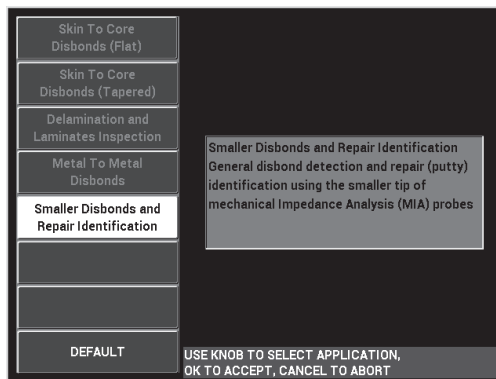

Figure 6-30 The Smaller Disbonds and Repair Identification application
3. Select the **Smaller Disbonds and Repair Identification** application, and then press  to accept (see Figure 6-30 on page 151).